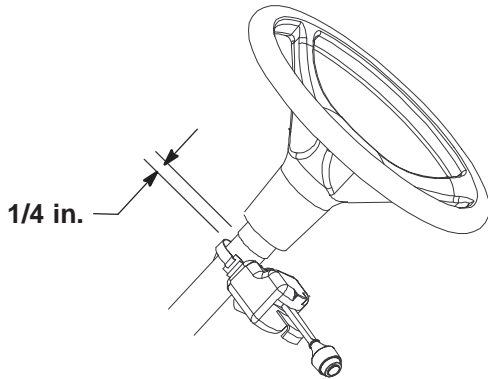

Figure 3
- E. Hold the controller against the steering column so that the strap is approximately 1/4 in. from the foam on the steering column (Fig. 3). Bend the strap around the column. Insert the other end of the strap through the second clip and bend the strap 1 inch (25 mm) from the end. Catch the clip under the anchor on the controller.